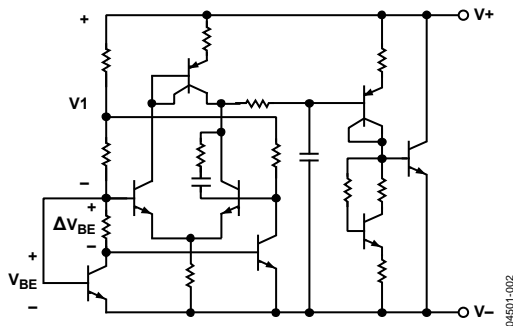

Figure 14. Circuit Schematic
The ADR525/ADR530/ADR550 use the band gap concept to produce a stable, low temperature coefficient voltage reference suitable for high accuracy data acquisition components and systems. The devices use the physical nature of a silicon transistor base-emitter voltage ( $V_{BE}$ ) in the forward-biased operating region. All such transistors have approximately a  $-2\text{ mV}/^\circ\text{C}$  temperature coefficient (TC), making them unsuitable for direct use as low temperature coefficient references. Extrapolation of the temperature characteristics of any one of these devices to absolute zero (with the collector current proportional to the absolute temperature), however, reveals that its  $V_{BE}$  approaches approximately the silicon band gap voltage. Thus, if a voltage develops with an opposing temperature coefficient to sum the  $V_{BE}$ , a zero temperature coefficient reference results. The ADR525/ADR530/ADR550 circuit shown in Figure 14 provides such a compensating voltage ( $V_1$ ) by driving two transistors at different current densities and amplifying the resultant  $V_{BE}$  difference ( $\Delta V_{BE}$ , which has a positive temperature coefficient). The sum of  $V_{BE}$  and  $V_1$  provides a stable voltage reference over temperature.